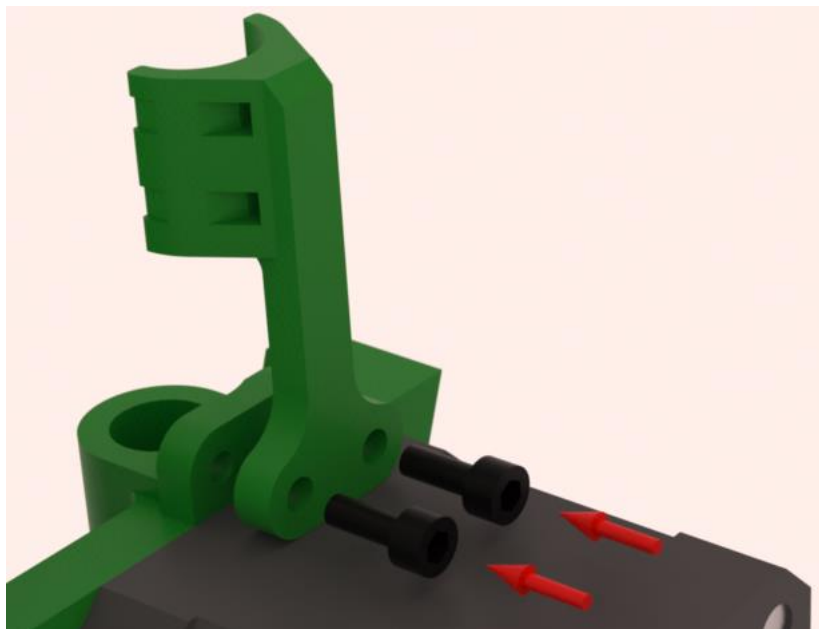

Figure 55: Extruder tubing holder
- Install the extruder tubing holder with two M3x8mm bolts as shown in Figure 55.